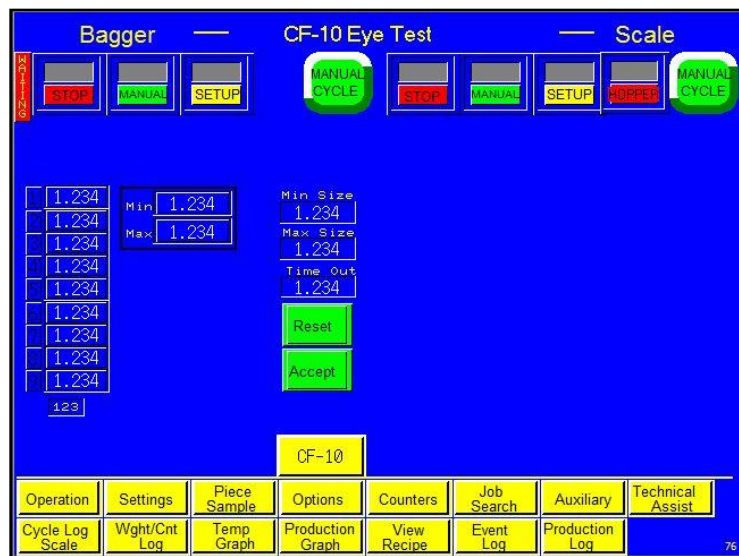

Figure 3-19
To ensure the accuracy of the count, an eye test must be performed. Press the **Eye Test** button on the Counting Funnel screen to display the Eye Test screen and perform an eye test. See Figure 3-19.
**Parts Length Test (Eye Test):** With the Counting Funnel option turned on, press the **Reset** button on the Eye Test screen, See Figure 3-19. Toggle the **START / STOP** toggle button to **STOP**. Then, drop parts (samples) individually through the photo sensor / funnel. The Min and Max values at the bottom of the screen will change as parts are dropped through the eye. If parts will be fed automatically, parts should pass through the eye as they would if feeding automatically.